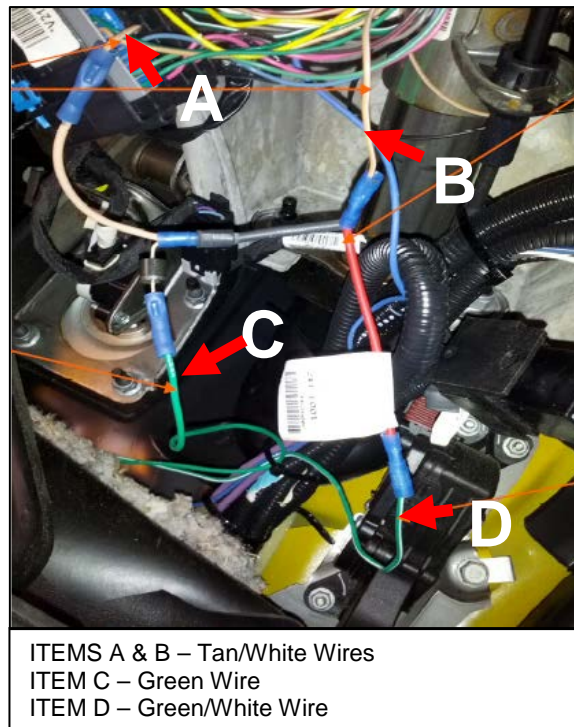

Figure 2: Current Harness Installation
3. Cut the two brown wires between the connectors shown in **Figure 2 Items A and B** as close to the butt splice as possible (to allow connection to the new harness).
4. Install new harness TBB 175974 as shown in **Figures 2 and 3**.
3. Compare the connections to **Figure 2**.